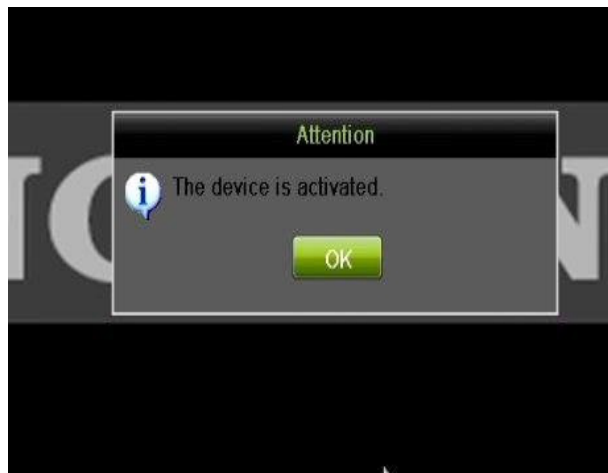

Figure 36, Activation Confirmation Message
5. After an acceptable password has been created, a confirmation message will appear (Figure 36).